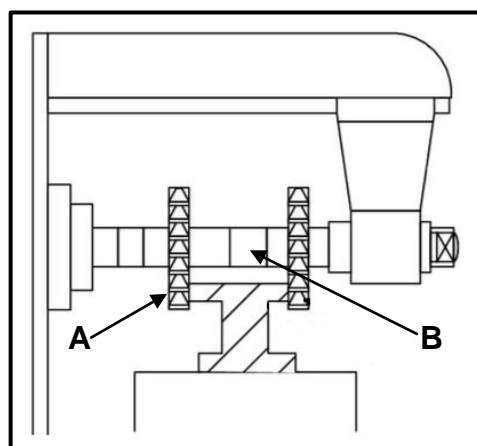

FIGURE 5.4
- 5.4 Label **A** and **B** in FIGURE 5.4 below showing the straddle milling process.